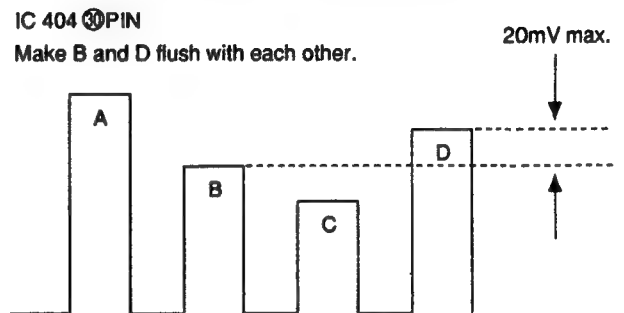

Fig. 5-31
- 2) Connect the probe of an oscilloscope to IC404 ⑩ PIN or TP402.
- 4) Adjust **[CHROMA SECAM]** so that the peaks of waveforms will be flush with each other as shown in Fig.5-31.